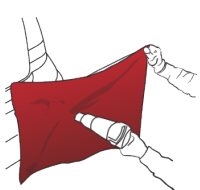
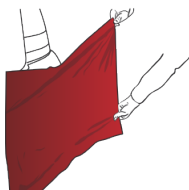
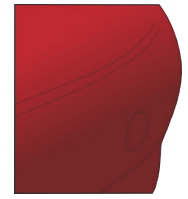

Figure 13
Figure 14
Figure 18
- › Remove the top hinge and continue removing the liner, depending on the surface structure (cf. paragraphs below). (FIG. 13)
- › Heat the film to a temperature ranging from 40 °C to 50 °C (from 104 °F to 122 °F) (FIG. 13) then stretch the film so as to completely wrap the convex surface. (FIG. 14)
- › The application is complete. (FIG. 18)
! Take particular care when (FIG. 13) to (FIG. 18) heating the stretched film. The heat gun's position must not be perpendicular to the film's surface. Incline the heat gun so as to heat a larger area. Keep the heat gun constantly moving. Never heat a reduced surface area over a prolonged period of time.